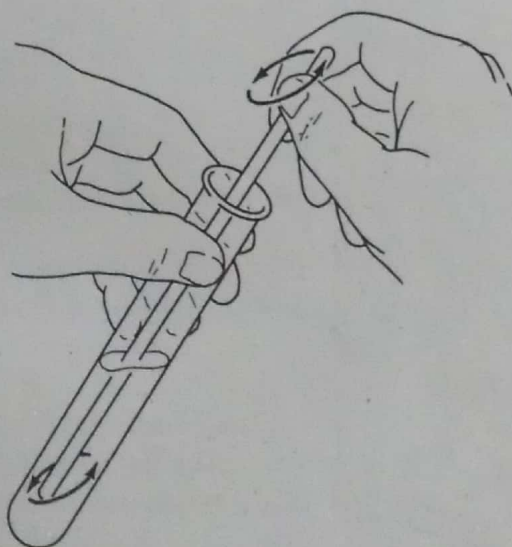

FIGURE 3.11
1. Use a glass rod (Fig. 3.11), preferably with a small rubber policeman.